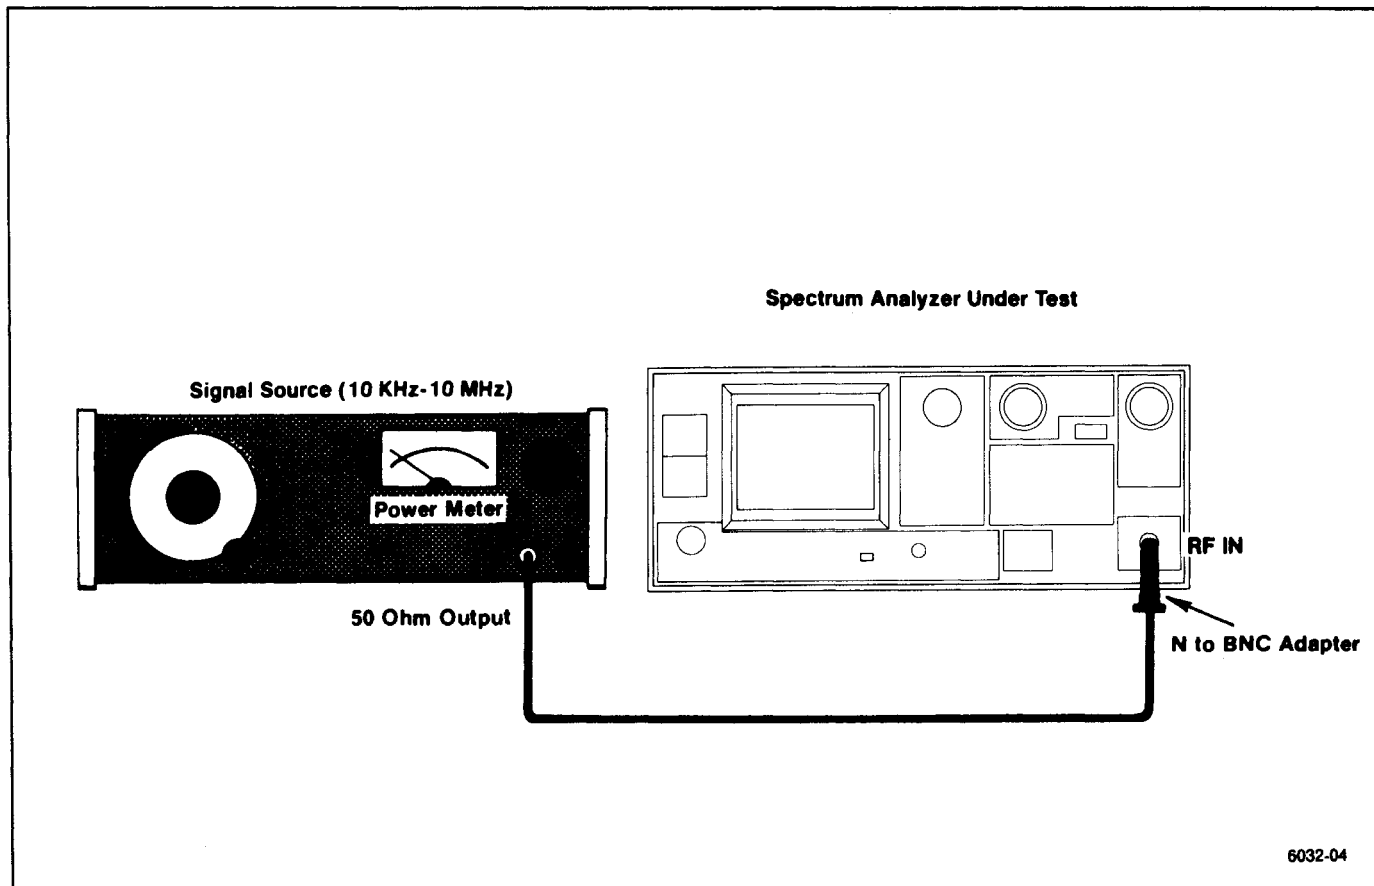

Figure 4-11. Test equipment setup for measuring 10 kHz to 10 MHz frequency response.
(1) Reconnect the test equipment as shown in Figure 4-11. Reset FREQUENCY to 10 MHz.
(2) Set the generator output for -20 dBm at 10 MHz, and set the Spectrum Analyzer controls as follows: